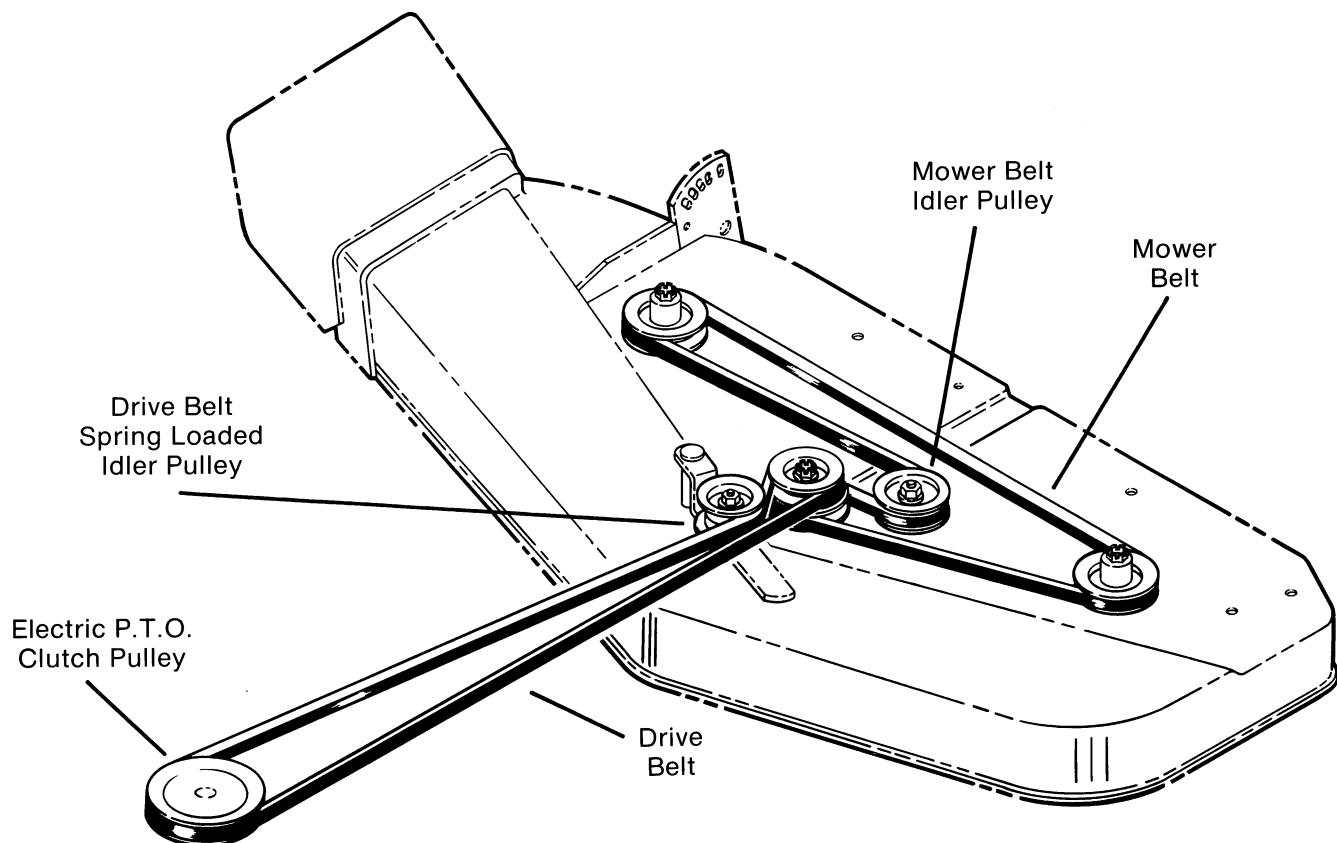

FIG. 17
No adjustment is necessary. This belt is self-adjusted by a spring loaded idler pulley. Periodically check idler arm to be sure it is pivoting freely and providing tension. (Fig. 17)
- B. Push spring loaded idler pulley, on the front of mower deck, to the right to take tension off of the drive belt. (Fig. 17)
- C. Remove drive belt from electric P.T.O. clutch pulley. (Fig. 17)
- E. Remove belt from center spindle pulley and replace with a new belt. Pull spring loaded idler pulley to the right and place belt inside idler (be sure wide side of belt is against idler pulley.) (Fig. 17)
- F. Route belt forward and around electric P.T.O. clutch pulley. (Fig. 17)
- D. Loosen nut on mower belt idler pulley (Fig. 17) and slide idler pulley to the right to relieve tension on mower belt.
- E. Remove old mower belt from all pulleys and replace with a new belt. See (Fig. 17) for proper routing of belt.
- I. Reinstall drive belt onto center spindle pulley. (Fig. 17)
D. Loosen nut on mower belt idler pulley (Fig. 17) and slide idler pulley to the right to relieve tension on mower belt. Remove mower belt.